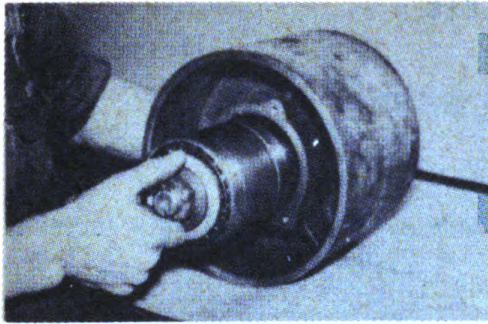

Figure 4. PULLING BEARING ASSEMBLY
4. Slip idler stud and bearing assembly into idler pulley. See Figure 4.